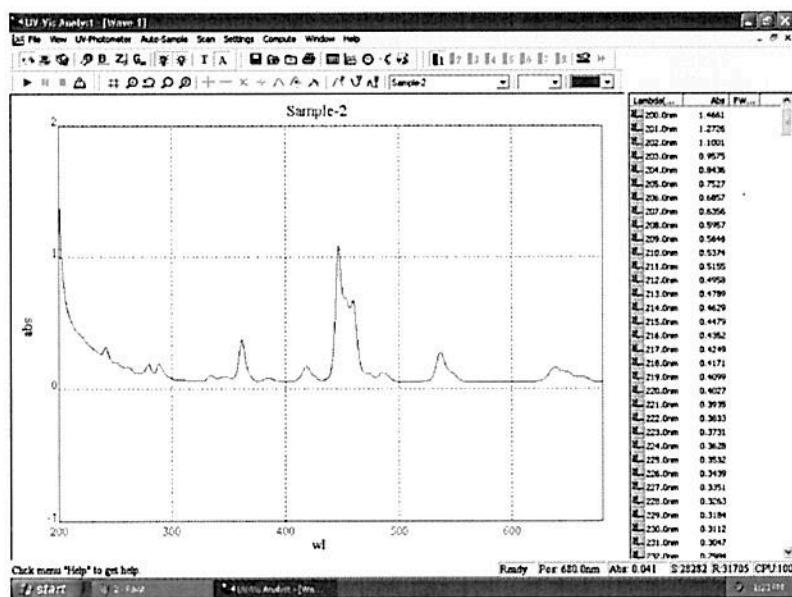

Fig. 4-13
6. Place sample into the sample holder. Click to scan sample, the real time spectrum will be displayed (Fig. 4-13). Click to cancel while scanning.